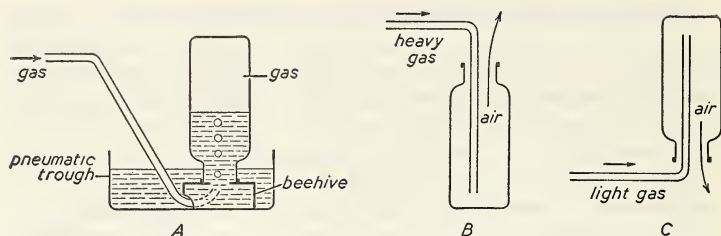

Fig. 10. Three methods of collecting a gas. *A*, downward displacement of water. *B*, upward displacement of air. *C*, downward displacement of air.
13. Collecting gases by displacement of air. If the gas being collected is appreciably soluble in water, collection by displacement of water has to be discarded. If the gas is heavier than air, it is collected by the *upward* displacement of air, as shown in Figure 10*B*. If the gas is lighter than air, it is collected by the *downward* displacement of air, (Fig. 10*C*). The delivery tube should be extended to the base of the collecting bottle in both cases.